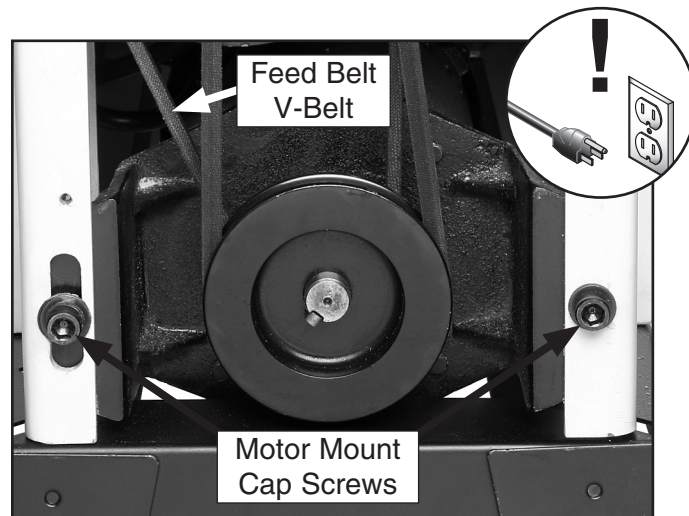

Figure 33. Feed belt V-belt tension.
3. Check the tension of the feed belt V-belt, then adjust the tension by loosening the motor mount cap screws shown in **Figure 33** and pushing down on the motor mount to tighten the V-belts.